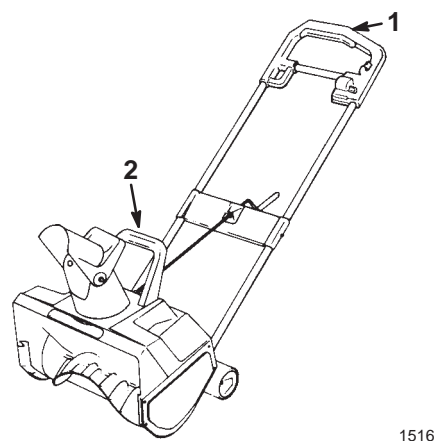

Figure 11
- Shave down large banks of snow by placing the snowthrower on the bank. Lift the snowthrower by the primary and secondary handles only (Fig. 11). Let the snowthrower's weight shave down the bank in a back-and-forth motion.